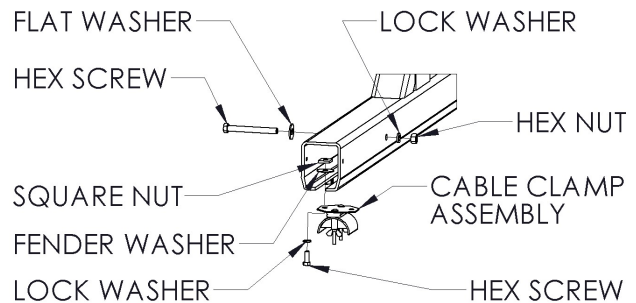

Figure 7b: Bridge End Stop Festoon Side
5. Install festoon end clamp on bridge(s) (see figure 7b)